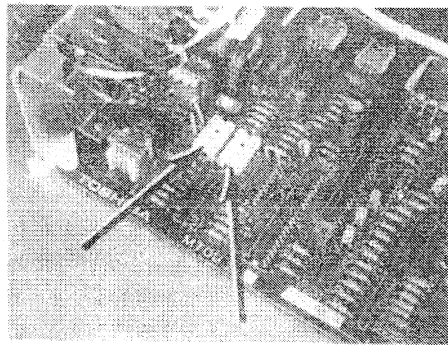

FIGURE 5
**05.02** To equip either of the two relay service functions; obtain the optional relay from your Toshiba supplier and install it in the proper location on the MTOU, per Figure 5.
**05.03** External page impedance is selected with the SW2 switch located adjacent to the relay sockets on the MTOU PCB (Figure 5). Decide if 8- or 600-ohm impedance is required, then make the selection by positioning the SW2 switch to "8" or "600", whichever is required. Figure 5 shows the switch in the 8-ohm position.